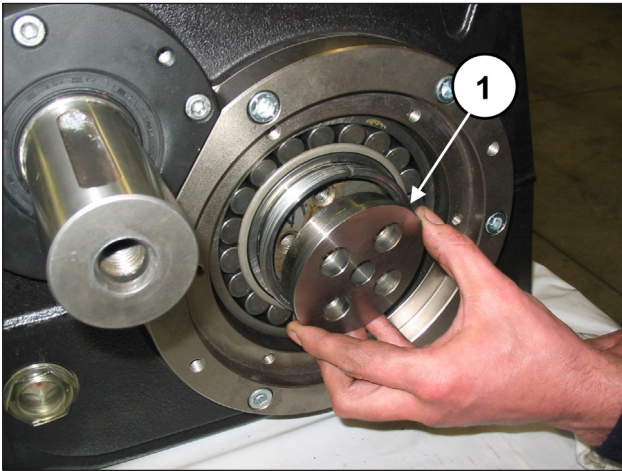

Fig. 78
Insert the bush locking flanges into the conical bushes (pos. ①, Fig. 78).